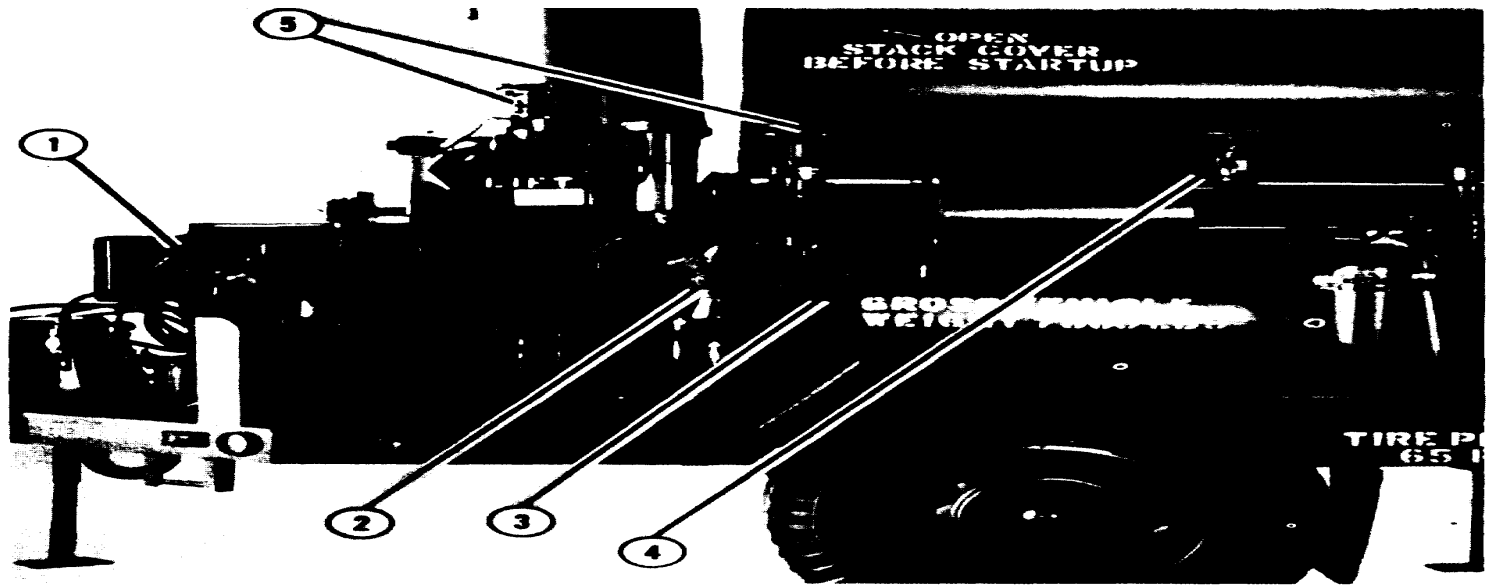

FIGURE 14. MANUAL TRANSFER OIL VALVES (GATE VALVES)
7. Refer to Figure 14 for manual transfer oil valve settings
NOTE: An uninterrupted flow of transfer oil through the hot fluid filters is possible only if the valves are properly positioned. The four gate valves are opened by turning the wheels fully counterclockwise (Fig. 14).
3. Check that proper valves are open to provide oil circulation. Open one set of valves (Fig 14), E and F or G and H, on the hot fluid strainers to get flow for system. Keep one set closed. Open front supply gate valve (Fig 14), marked A, and pump suction gate valve (Fig. 14), marked C.
5. Close the return oil valves located on the strainer assembly (Fig 14)